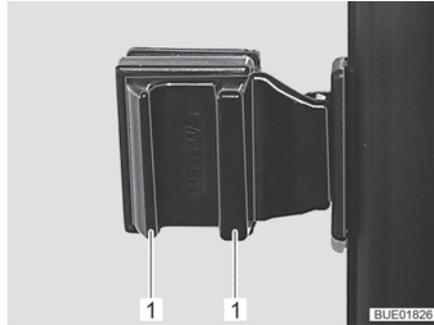

Fig. 99 Sliding window with pressure lock
- Press the handles (Fig. 99,1) together and hold them in place.